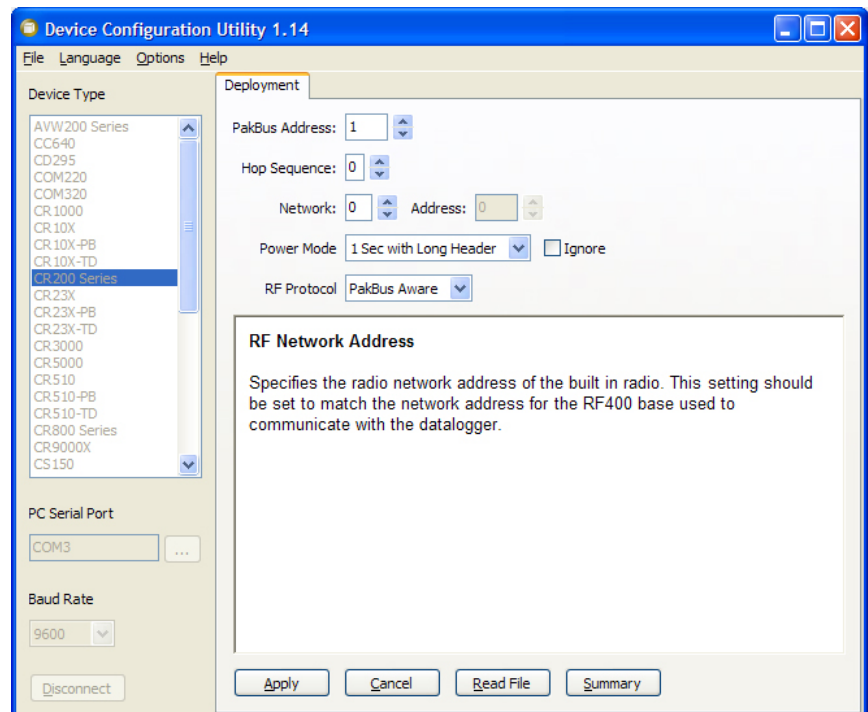

FIGURE D-6. DevConfig Deployment panel for CR206(X) Example Setup 2
CR206(X) Example Setup 2 (see FIGURE D-6)